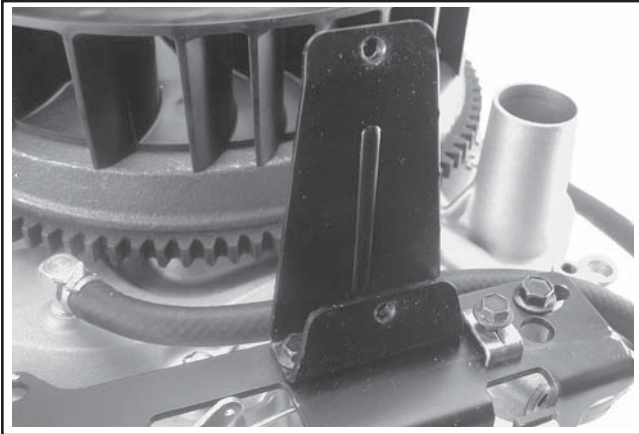

Figure 10-72. Fuel Pump Mounting Bracket.
1. Attach the fuel pump mounting bracket to the speed control bracket with the two M5 screws. Torque the screws to **6.5 N·m (55 in. lb.)** into new as-cast holes, or **4.0 N·m (35 in. lb.)** into used holes. See Figure 10-72.